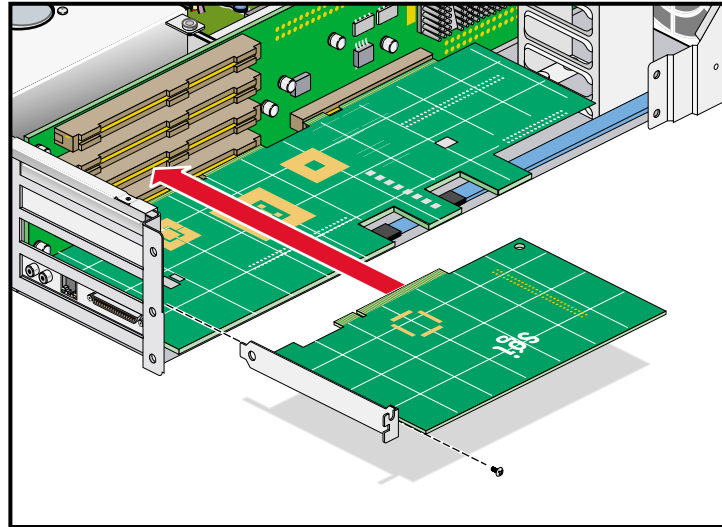

Figure 3-7 Installing the Card and Retaining Screw
11. Insert the card into the slot by pushing the card into the connector until it is properly seated and install the retaining screw, as shown in Figure 3-7. If you have installed the card into one of the upper two slots, proceed to step 13.